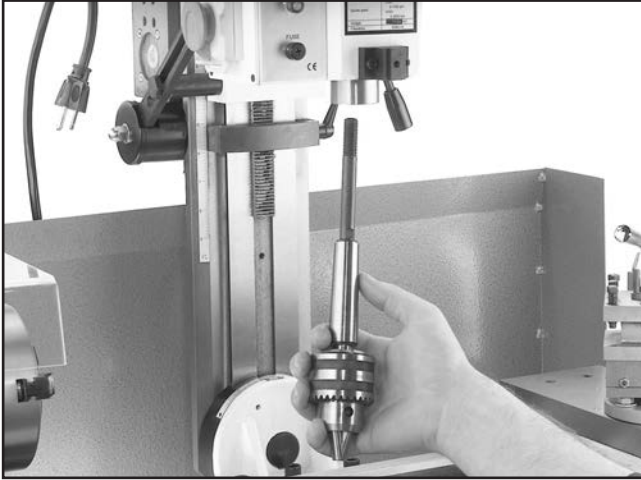

Figure 56. Removing drill chuck from spindle.
6. Hold the drill chuck with one hand and remove the draw nut and washer with the other hand. The drill chuck should now be easily removed from the bottom as shown in **Figure 56**.